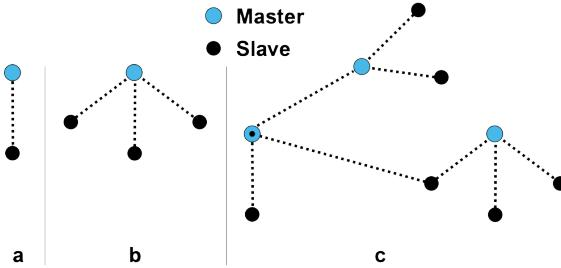

Figure 1: Piconets with a single slave operation (a), a multi-slave operation (b) and a scatternet operation (c).
- Piconet - It is a Bluetooth network that can have up to eight stations, one of which is called as master and the rest are called as slaves as shown in Figure 1